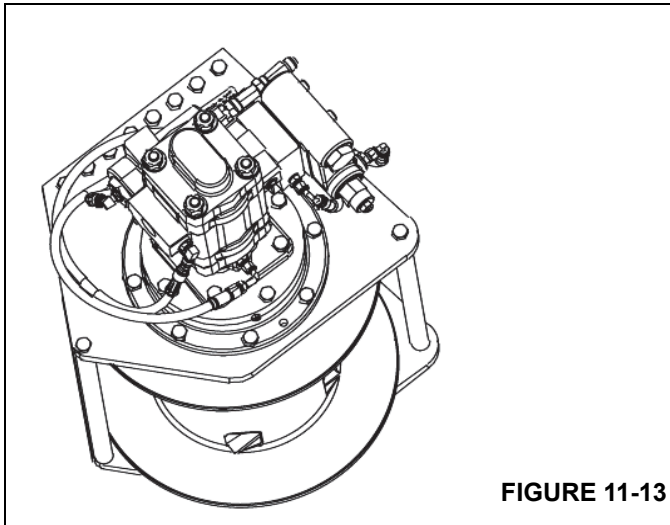

FIGURE 11-13
1. Stand the hoist on its end with the motor pointing up. Place blocking under the side plate so the hoist is not sitting on the shaft (Figure 11-13).
2. Inspect the cable drum (5) for structural integrity and replace if necessary.
3. Attach the shaft (32) to the side plate (29) using the six capscrews (3). Make sure the vent (30) is oriented properly. Torque the capscrews to recommended values, refer to *Fasteners and Torque Values on page 1-14*.
4. Install retaining ring (48) onto the shaft (32)
5. Lay the unit down with the rods (2) pointing up. Support the side plate (29) with blocking (Figure 11-13) so that the hoist is not setting on shaft (32).
6. Set cable drum (5) onto shaft (32) and seat drum on bearing (28). Be careful not to damage seal (306).
7. Install the output planet set (4).
8. Install the output sun gear (16) into the output planet set.
9. Install the thrust washer (6) into the output planet set.
10. Install the input planet set (36) into the drum. Make sure that it fits over the output sun gear (16).
11. Install the input sun gear (8) and thrust washer (6) into the input planet set.
12. Install the thrust washer (6) into the input planet set.
13. Install a new O-ring (304) and if necessary bearing (28) & seal (306) into the bearing carrier (26). Grease the O-ring and seal then install the bearing carrier into the drum.
14. Position the side plate (1) over cable drum on rods (43). Secure the side plate with the three capscrews (2). Tighten capscrews to 109 to 122 Nm (80 to 90 lb-ft).
15. Install the brake sub-assembly into the side plate (1). Make sure that the pilot of the brake housing aligns with the bore in the bearing and that the bolt holes for the motor and vent are oriented properly. Install the eight capscrews (2). Tighten the capscrews evenly to 109 to 122 Nm (80 to 90 lb-ft).